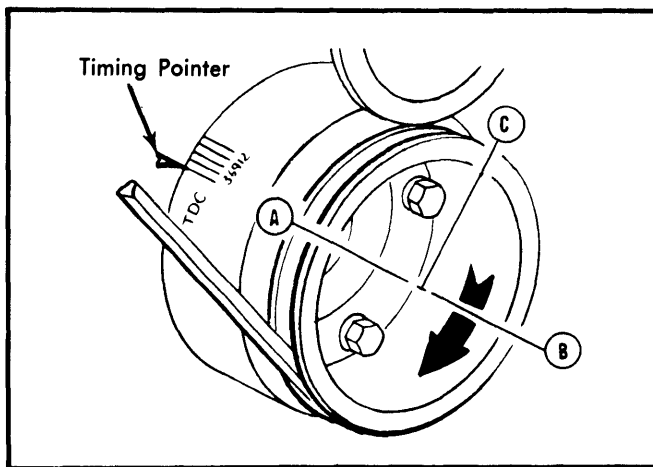

Fig. 6 Different Positions to Place Crankshaft Damper When Making Hydraulic Valve Lifter Adjustment
1) Rotate crankshaft until No. 1 piston is at TDC (point "A" in Fig. 6) after compression stroke as indicated by timing mark on crankshaft damper and pointer. Make a chalk mark on damper 180° (point "B") from TDC mark. Make a chalk mark on damper 90° (point "C") clockwise from TDC mark.